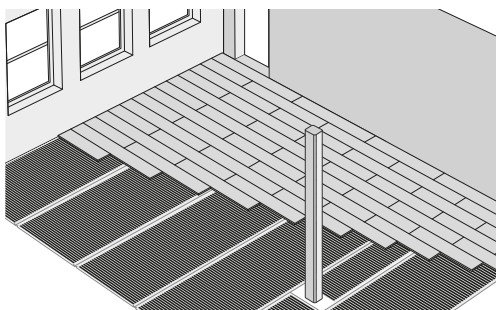

Fig. 10. Install flooring
- The flooring shall be installed as a floating layer and can not be fixed to the underlying layers. (fig. 10)